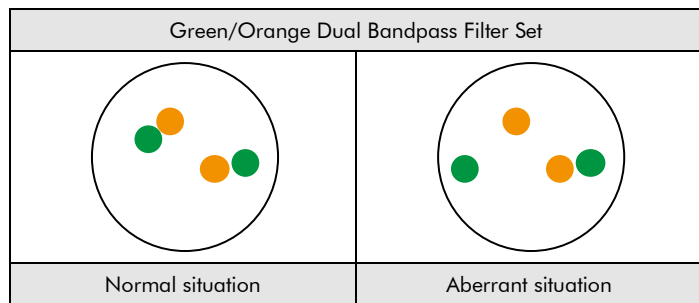

Fig. 2: Expected results in normal and aberrant nuclei
**Normal situation:** In interphases of normal cells or cells without a translocation involving the USP6 gene region, two green/orange fusion signals appear (see Fig. 2).
**Aberrant situation:** One USP6 gene region affected by a translocation is indicated by one separate green signal and one separate orange signal (see Fig. 2).